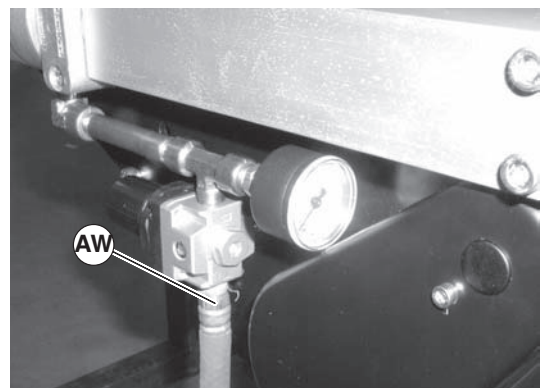

Figure 57
1. Remove air supply and remove hose (Figure 57, item AW) from center drive.